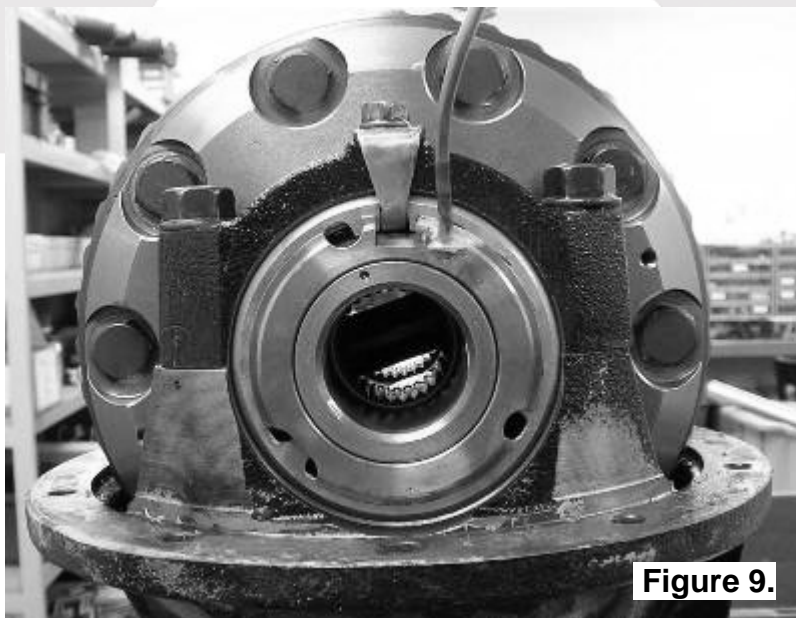

Figure 9.
- ☐ Rotate the seal housing until the square cutout lines up with the locking tab position at the center of the bearing cap, and then assemble the locking tab. (Fig.9.) Ensure adequate clearance between tab and cutout.